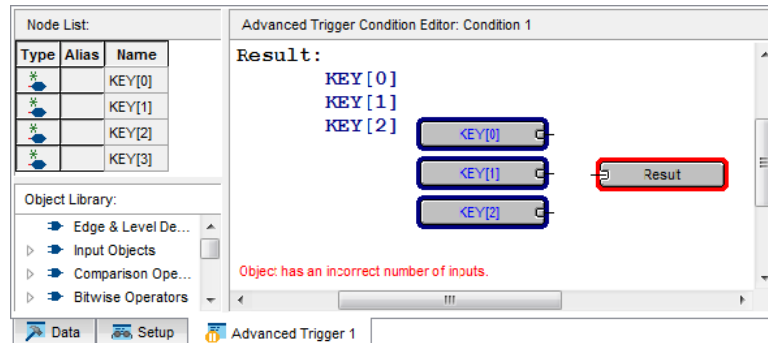

Figure 19. The three input nodes of interest dragged into the Advanced Trigger Editing Window.
4. In the node list section of this window, highlight the 3 nodes KEY[0] to KEY[2], and click and drag them into the white space of the Advanced trigger window, resulting in Figure 19. Note that you can also drag and drop each node individually.